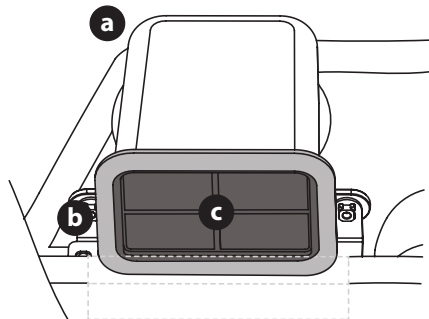

Figure 39
2. Remove the rubber seal (b) around the front of the air intake (a) and remove the air intake screen (c) (Figure 39).
3. Rinse the air intake screen (c) with water and replace the air intake screen (c) and rubber seal (b) (Figure 39).